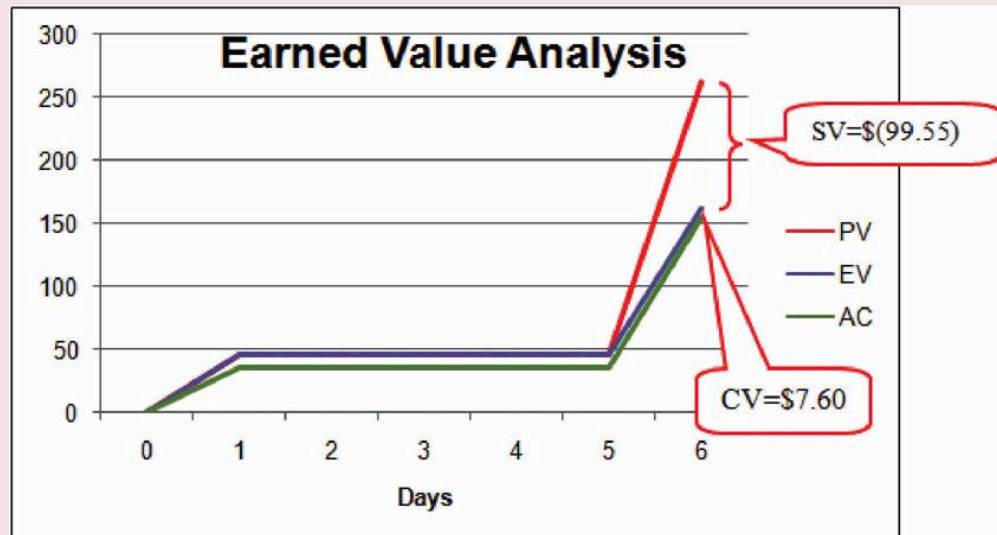

Figure 12.3 Schedule variance and cost variance.
The cost variance of positive \$7.60 and the CPI value of 1.05 tell John that he is getting more value for his money than planned for the tasks scheduled by day six. The schedule variance (SV) of negative \$99.55 and the schedule performance index (SPI) of 0.62 tell him that he is behind schedule in adding value to the project (Figure 12.3).